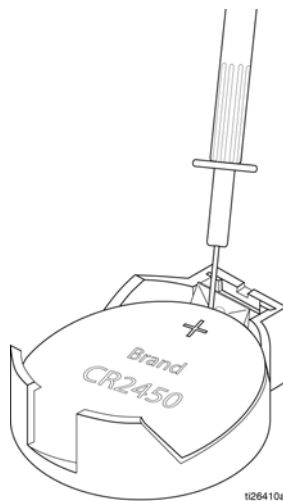

FIG. 1
2. Attach the disposable grounding wrist strap (8) (not shown, included in the kit) to your wrist. Connect the adhesive-backed copper foil at the other end of the strap to any convenient electrical ground, such as the grounding screw or metal case of a grounded electrical outlet.
3. Lift the bottom edge of the black cover (1) away from the meter (2), and pull the cover off. Remove and discard the screws (6) and the large o-ring (4). Dispose of the screws and o-ring according to all standards for disposal.
4. Insert a small, flat screwdriver or similar tool between the battery and the positive terminal (battery retainer) in the electronic control to remove the battery as shown in FIG. 1.